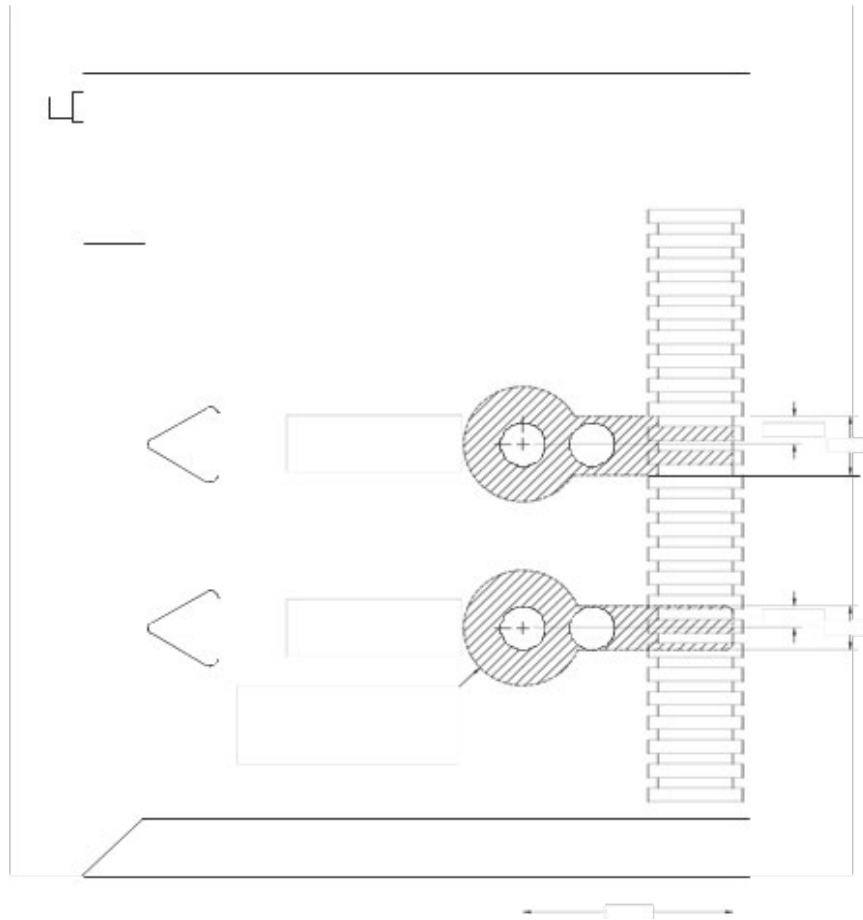

Figure 3.4. Agilent 6890 or 7890 GC Cover Modifications for Mounting the PFPD
- Optional: Cut a 1.975"-diameter hole in the top of the GC cover concentric with the existing hole (refer to Figure 3.4).